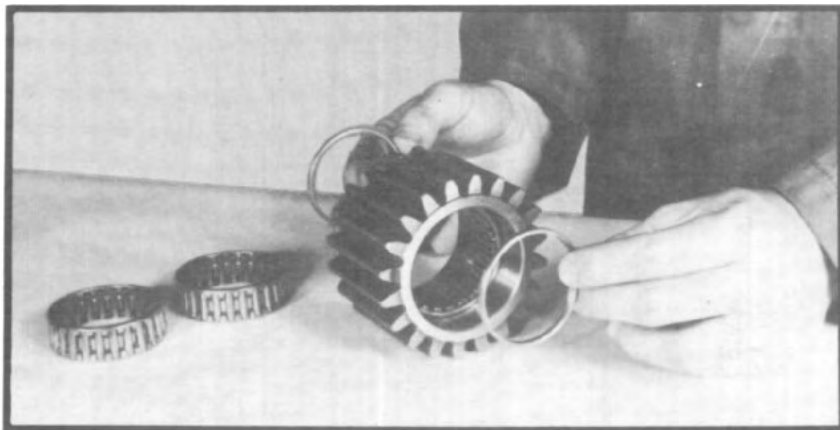

Fig. 153
3.19 Install three needle bearings and two spacers into each planet gear. (See fig. 153.)